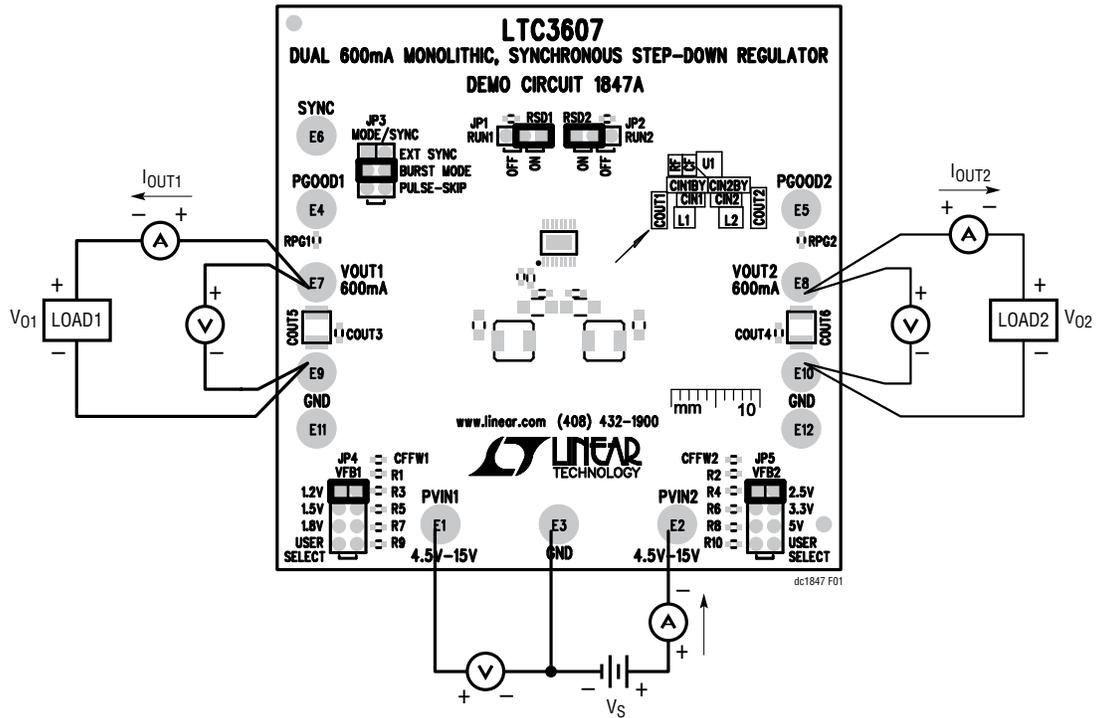

Figure 1. Proper Measurement Equipment Setup
Demonstration circuit 1847A The DC1847 is easy to set up to evaluate the performance of the LTC3607. For a proper measurement equipment configuration, set up the circuit according to the diagram in Figure 1.
1. Connect the input power supply to the PV_{IN1}/PV_{IN2} and GND terminals (V_{IN1} and V_{IN2} are separate nodes but are connected.). Connect the loads between the V_{OUT} and GND terminals. Refer to figure 1 for the proper measurement equipment setup.